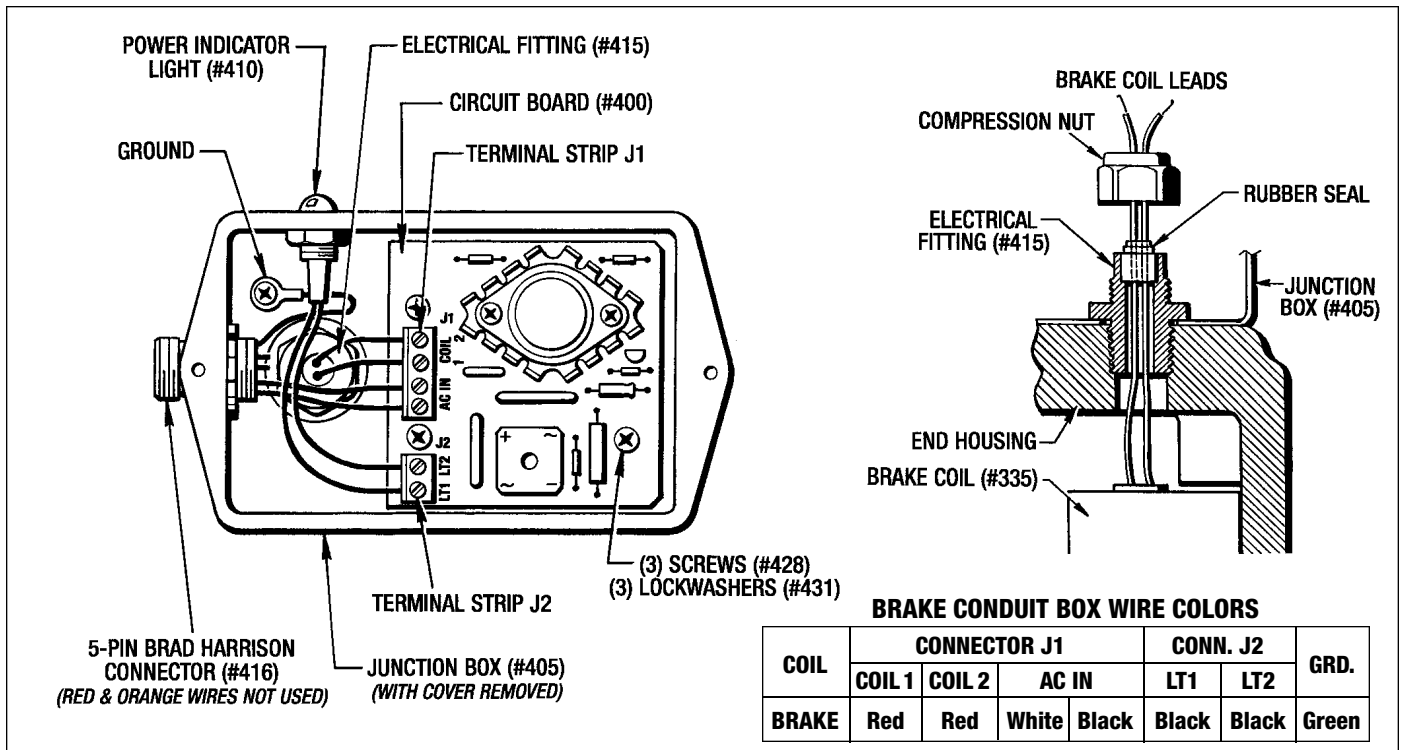

Figure 7.6 - Brake Conduit Box With Cover Removed
6. Disconnect the coil leads from the Terminal Strip J1, located on the Circuit Board (#400) and remove the compression nut from the Electrical Fitting (#415). (See Figure 7.6)
7. Take the (4) Screws (#377) and (4) Dyna-Seal Washers (#378) out of the End Housing (#309).
9. Loosen and remove the (2) Shoulder Bolts (#347) that holds the Armature Plate (#332) in place.
Seat the rubber seal into the threaded part of the Electrical Fitting (#415). Tighten down the compression nut. (See Figure 7.6)
(See Figure 7.6)